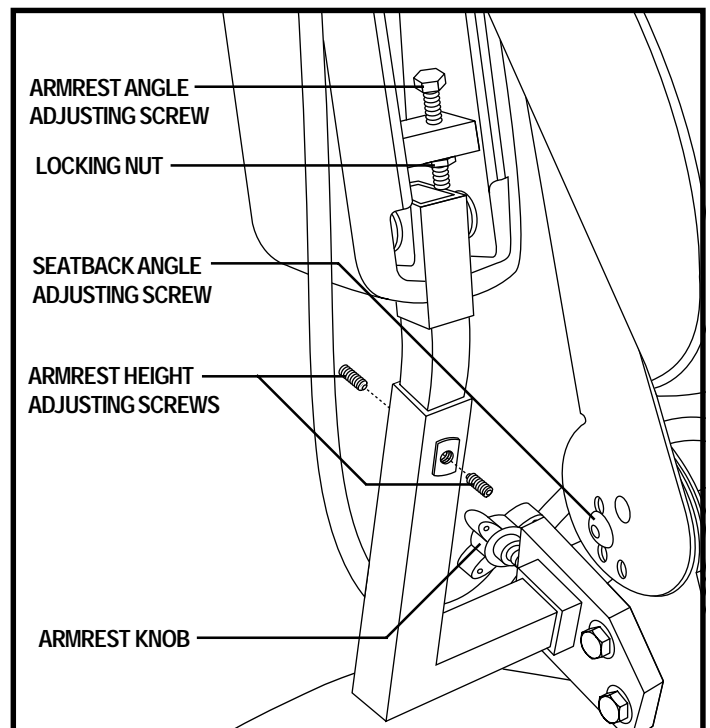

Figure 16. Seatback/Armrest Adjustment
1. Remove the adjusting screws from each seat hinge. See figure 16.
1. Locate the two armrest knobs on each side of the armrest receiver bracket. See figure 16.
1. Lift the armrest straight up so that it is perpendicular to the floor. See figure 16.
1. Loosen the two setscrews located on the armrest receiver. See figure 16.